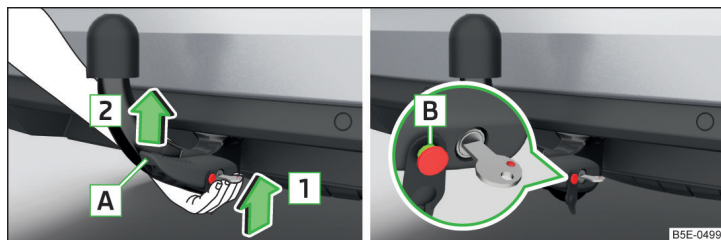

Fig. 291 Insert ball rod / trigger bolt in the extended state
- Grip the tow bar **from underneath** » Fig. 291 and insert into the mounting recess in arrow direction **1** until you hear it click into place » **I**.